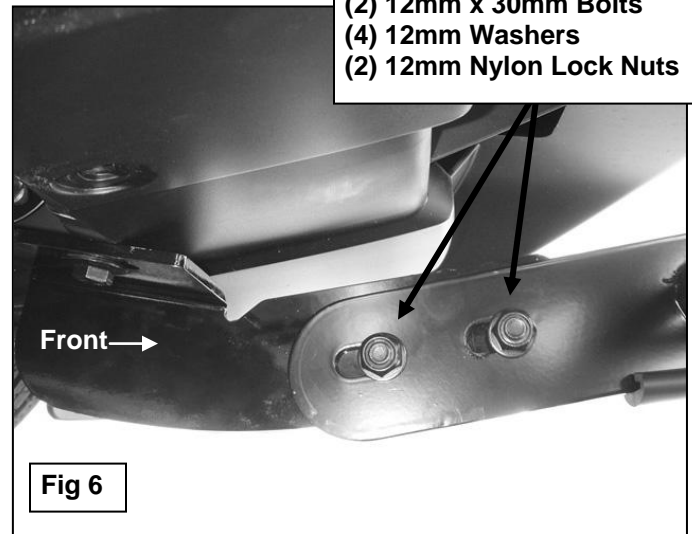

Fig 6
8. With assistance, position the Grille Guard up to the inside of the Mounting Brackets. Attach the Grille Guard to the Mounting Brackets with the included (4) 12mm x 30mm Hex Bolts, (8) 12mm Flat Washers and (4) 12mm Nylon Lock Nuts, **(Figure 6)**. Do not tighten hardware at this time.